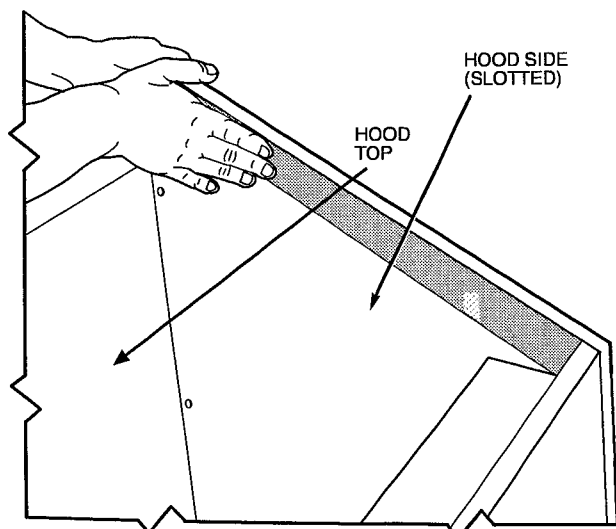

Fig. 19 — Adding Foam Strip to Hood Side
7. Place gray foam strip (provided) on inside of slotted hood side between filter and cross member opposite the mounting end. See Fig. 19.